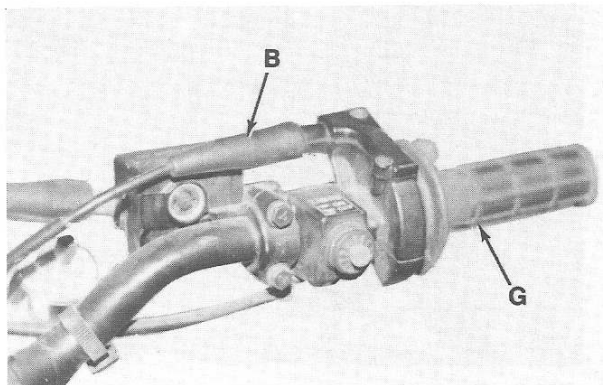

Fig. K10-12—Throttle grip (G) should have 2-3 mm (0.079-0.118 in.) of free play. To adjust, slide boot (B) down cable to expose adjuster nut and locknut.
THROTTLE GRIP FREE PLAY. Throttle grip (G—Fig. K10-12) should have 2-3 mm (0.079-0.118 in.) of free play. Throttle grip free play can be adjusted by sliding boot (B) down cable to expose outer adjuster nut and inner locknut. Loosen locknut and rotate adjuster nut until 2-3 mm (0.079-0.118 in.) free play is obtained. Secure adjustment with locknut and reinstall boot (B).